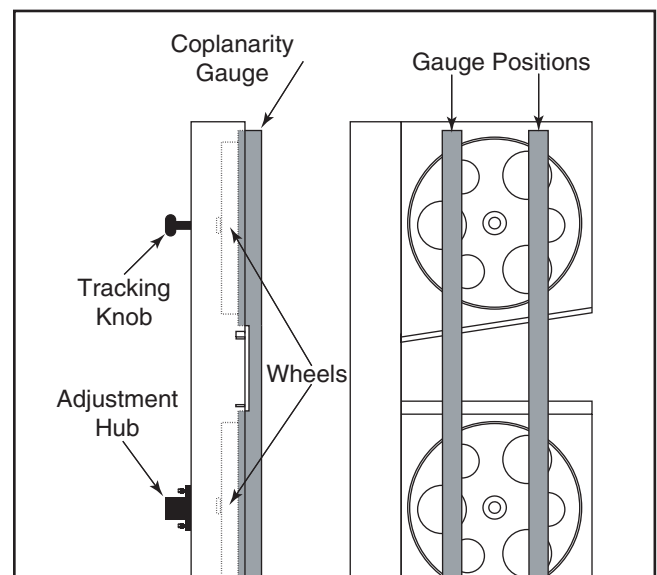

Figure 63. Checking for coplanarity.
4. Place your coplanarity gauge up against both wheels in the positions shown in **Figure 63**.